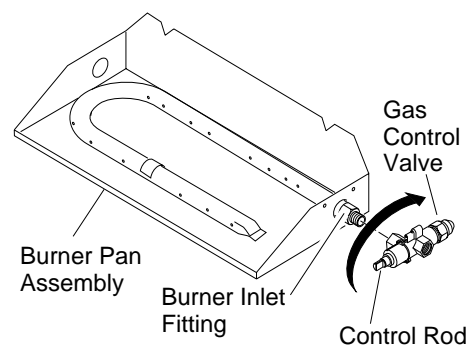

Figure 11 - Installing Gas Control Valve
1. Thread the gas control valve onto the burner inlet fitting (see Figure 11). Use thread sealant on the male threads of the burner inlet fitting. Hold the burner inlet fitting with a wrench to prevent overtightening the connection to the burner. Make sure the control rod is facing the front (see Figure 11).